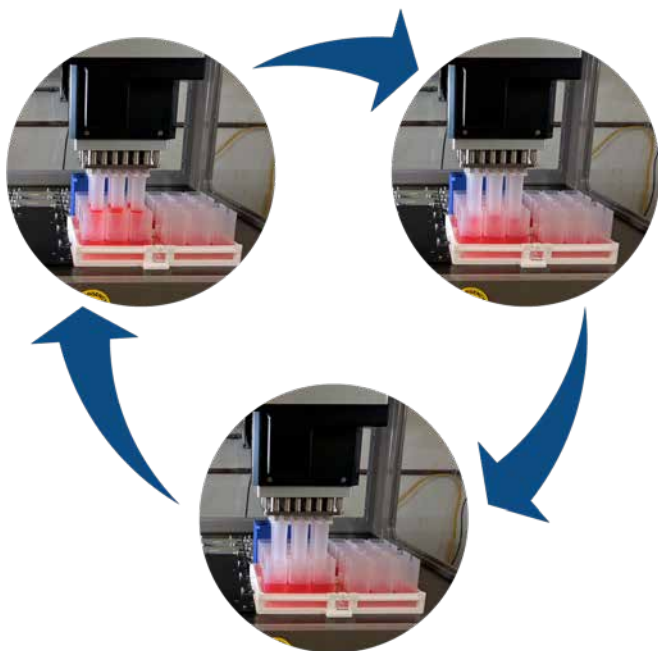

Figure 15: High speed gentle mixing of samples using Mammoth 30mL Automation Tips in 6-well plate.
3. Aspirate liquid from the reservoir (Figure 15).